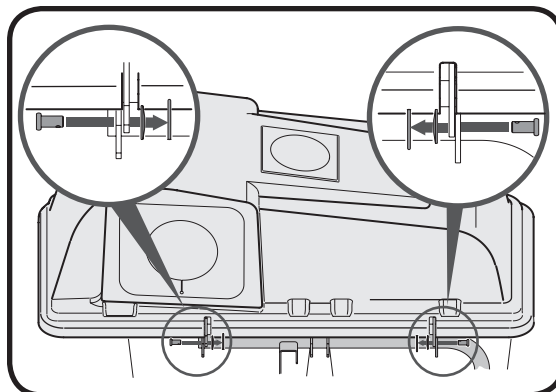

Figure 4-4
5. Insert the clevis pin through the hinge on the support tube assembly and then through the grass bag cover. See Figure 4-4.
6. Secure with belleville washer and hairpin clip with the crown side of the washer going against the hairpin clip. See inset images in Figure 4-4.
NOTE: Insert the clevis pins from the outside in as shown in the inset images of Figure 4-4. It is very important to maintain this order and direction while installing these hardware pieces. After installation, make sure that the grass bag cover pivots on the support tube and opens.
Insert the clevis pins from the outside in as shown in the inset images of Figure 4-4.